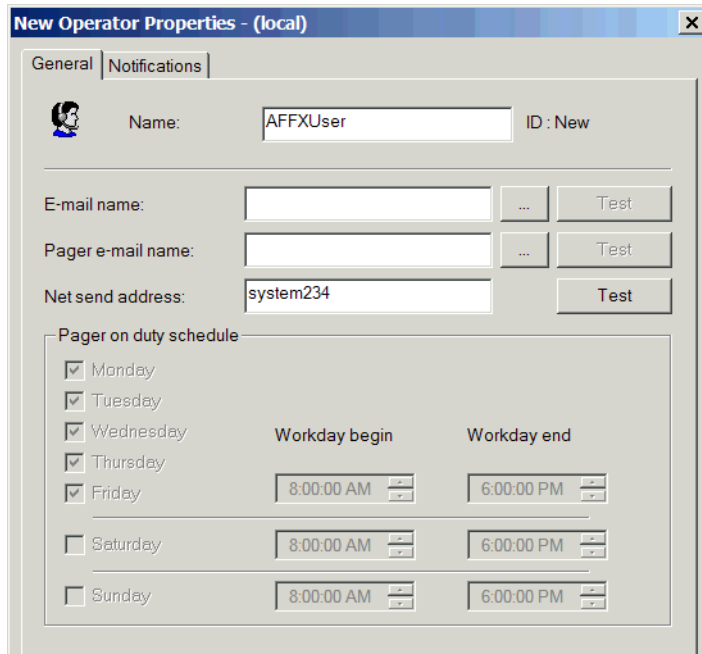

Figure 7.5 New Operator Properties Window
8. In the Net send address box, enter the name of the computer (Figure 7.5).